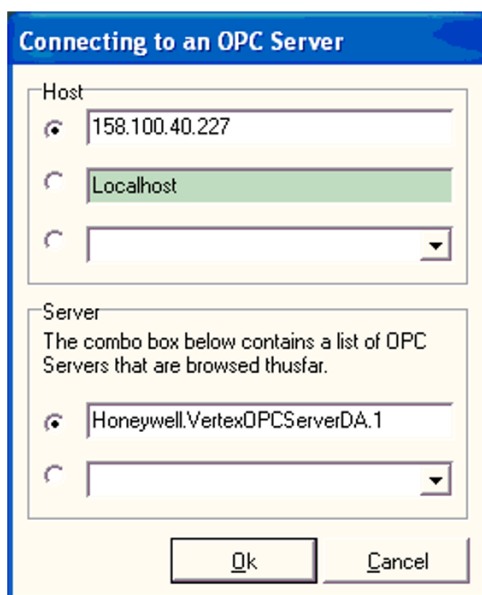

Figure 8-22. Connecting to an OPC Server
9. Select the group as shown highlighted in Figure 8-22.
18. Verify that the tag quality is **Good** as shown in light-blue in the Matrikon OPC Explorer window in Figure 8-22.